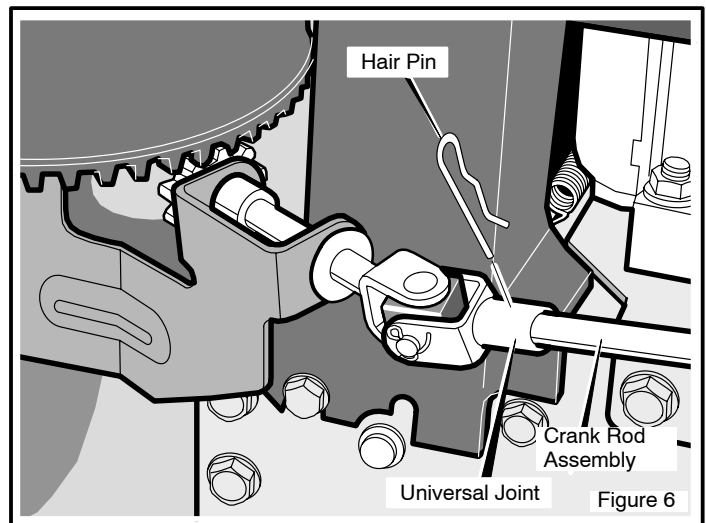

Figure 6
7. Attach the crank rod to the universal joint assembly with the hair pin (see Figure 6).